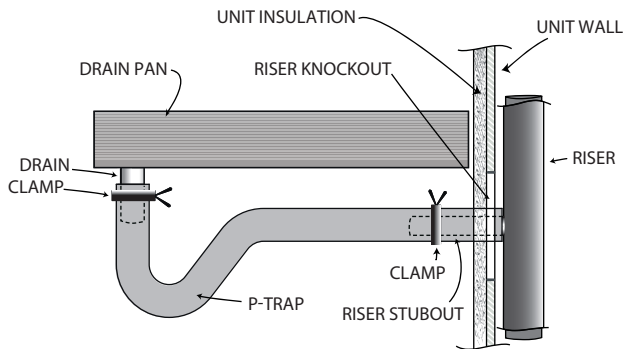

Fig. 30 — 42SM Riser to Drain Installation
9. Locate the p-trap drain and rubber hose factory installed to the drain pan connection in the bottom of the unit as shown in Fig. 30.
11. Adjust the hose clamp over the riser stubout and rubber hose to hold in place as shown in Fig. 30.